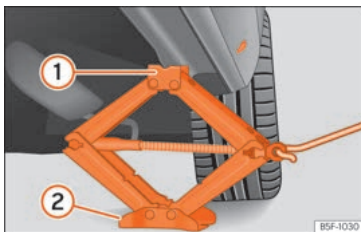

Fig. 79 Crossbar: mounting the jack on the vehicle.
- Turn the jack*, located below the strut support point, to raise it until tab ① » » » **Fig. 79** is below the housing provided.
- Align the jack* so that tab ① "grips" onto the housing provided on the strut and the mobile base ② is resting on the ground. The base plate ② should fall vertically with respect to the support point ①.